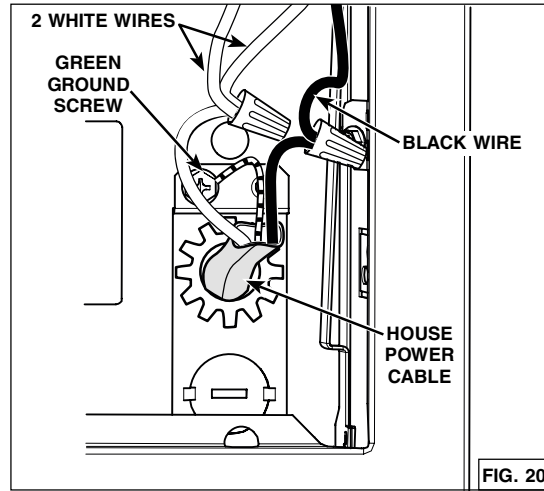

FIG. 20
1. Using appropriate wire nuts (not included), connect house power cable to unit wiring: BLACK to BLACK, WHITE to both WHITE wires and GREEN or bare wire to GREEN ground screw (FIG. 20).